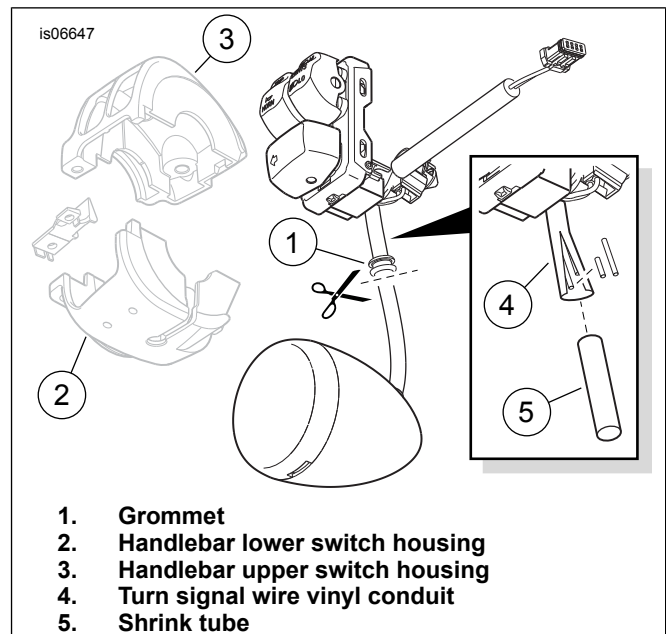

Figure 4. Cut Turn Signal From Switch Assembly
- See Figure 4. Cut the turn signal wires and conduit flush with the grommet (1) on the underside of the handlebar lower switch housing (2).
- Separate the upper (3) and lower switch housings per service manual instructions.
- Remove the grommet from the end of the turn signal wire vinyl conduit (4) still connected to the switch housing.
- Slip the 50.8 mm (2 in) long section of encapsulating (dual wall) shrink tube (5) over the conduit and wires.